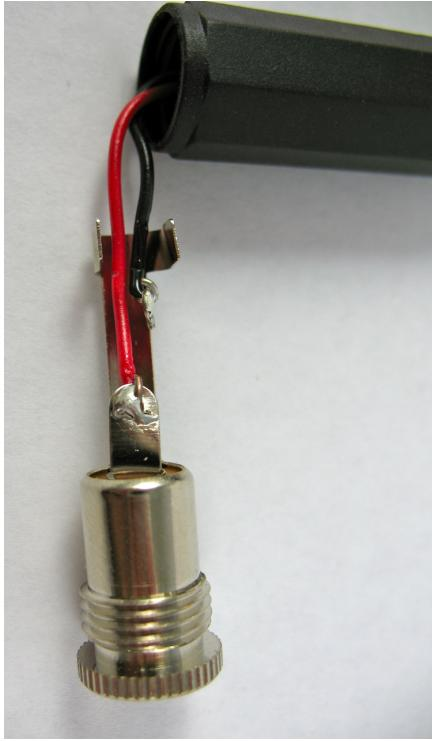

Figure 5-5. Power jack with wiring soldered in place
2. Solder a red wire (about 10 cm) to the short center pin of your power jack, and solder a similar black wire to the longer outer pin, as shown in Figure 5-5. Don't allow the two connections to touch each other since that will create a short circuit when you power up!